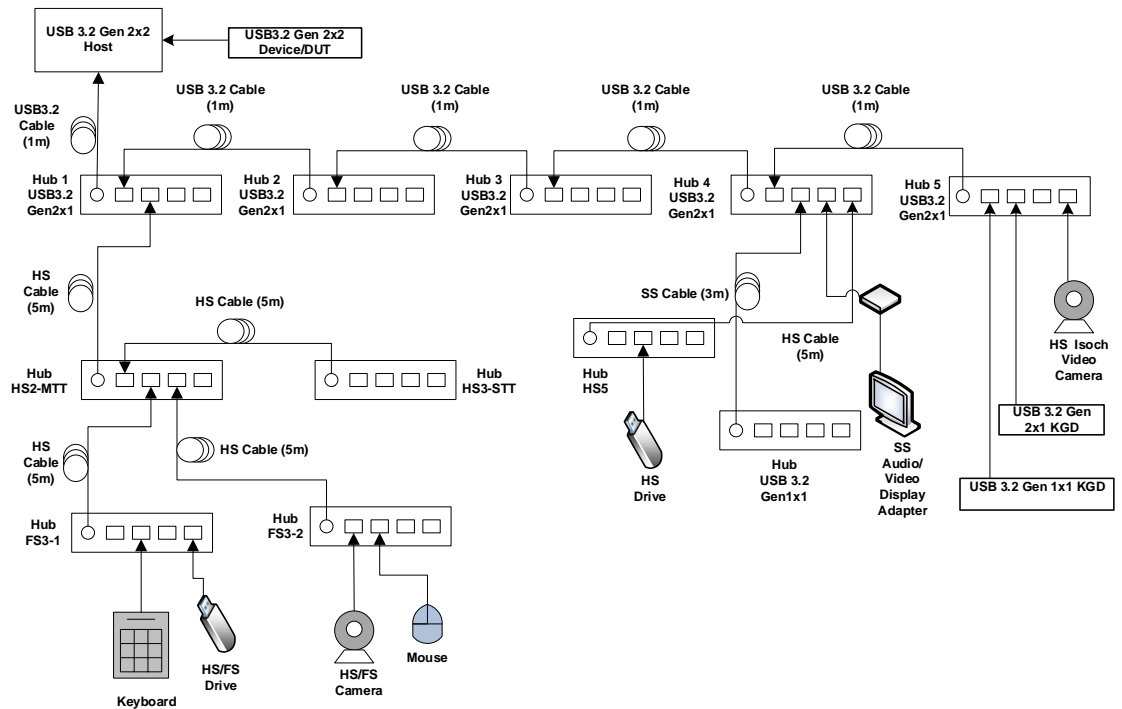

Figure 13-4: Modified USB 3.2 Gen 2x2 Host/Device Interoperability Interim Tree
- Connect the USB 3.2 Gen 2x2 tree as shown in Figure 13-4
- Disconnect the USB 3.2 Gen 2x2 DUT device from root port (refer to Figure 13-4) and connect it behind Hub 5 USB 3.2 Gen 2x1